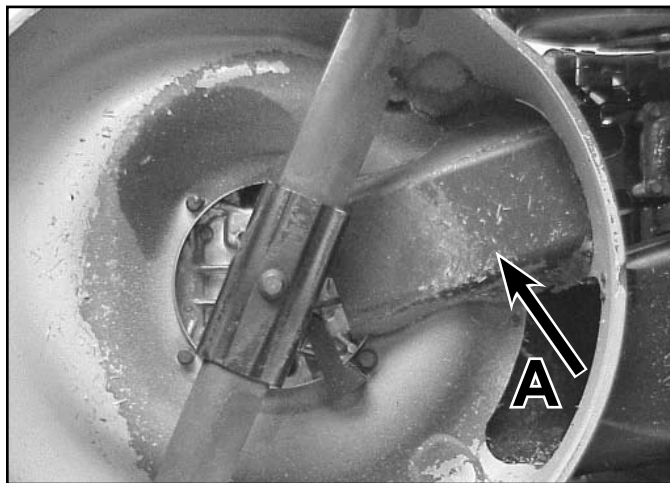

Fig 092
4. The belt cover will drop off the bottom (Fig. 092).